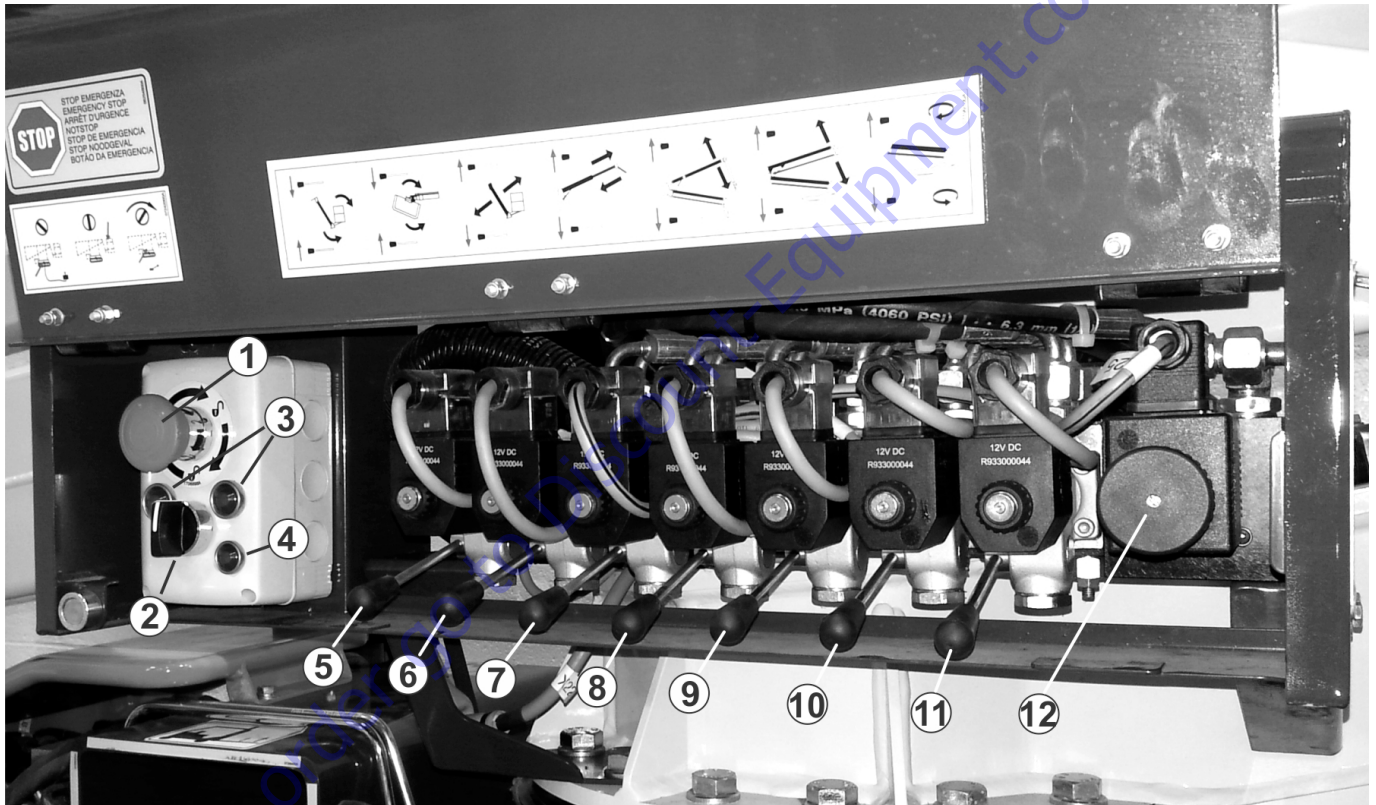

Figure 3-5. Ground Control Station
See Figure 3-5., Ground Control Station - with Enable Knob
Engine Start Buttons (*see Figure 3-5.*)
3. Function Enable Indicator (*see Figure 3-5.*)
To enable this position it is necessary to have the select switch at the ground controls (*Item 2* - Figure 3-5.) turned counterclockwise after connecting the platform/remote